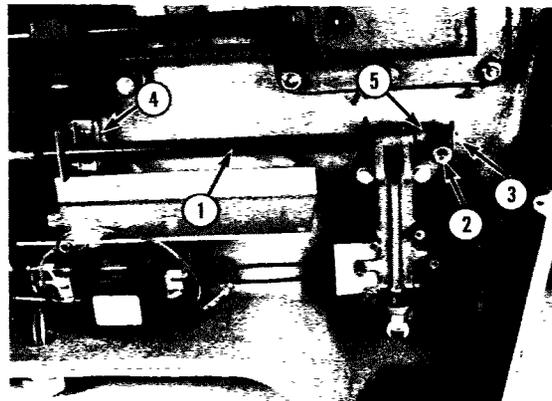

Fig. 2-42
C. Switch control shaft removal (1, Fig. 2-42).
- (1) Remove switch rod (step A) and interlock pin bar (step B).
- (2) Remove the set screw, ball detent spring and ball (2, Fig. 2-42).
- (3) Remove the screw and washer (3, Fig. 2-42).
- (4) Remove two screws and spacer (4, Fig. 2-42) and remove the shaft by sliding it out of the switch interlock frame (5, Fig. 2-42).
- (5) Reassemble in the reverse order of removal.
- (6) Test for correct interlock operation.